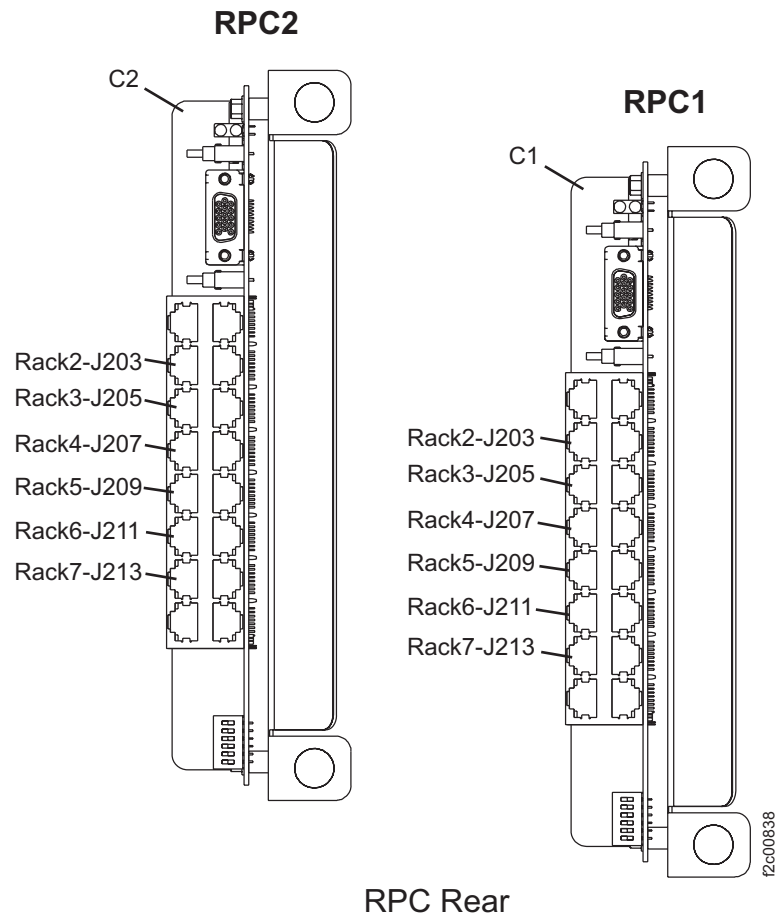

Figure 20. RPC card locations
7. Connect the power control cables into the RPC connector as indicated in Table 4 and Figure 20 on page 25.